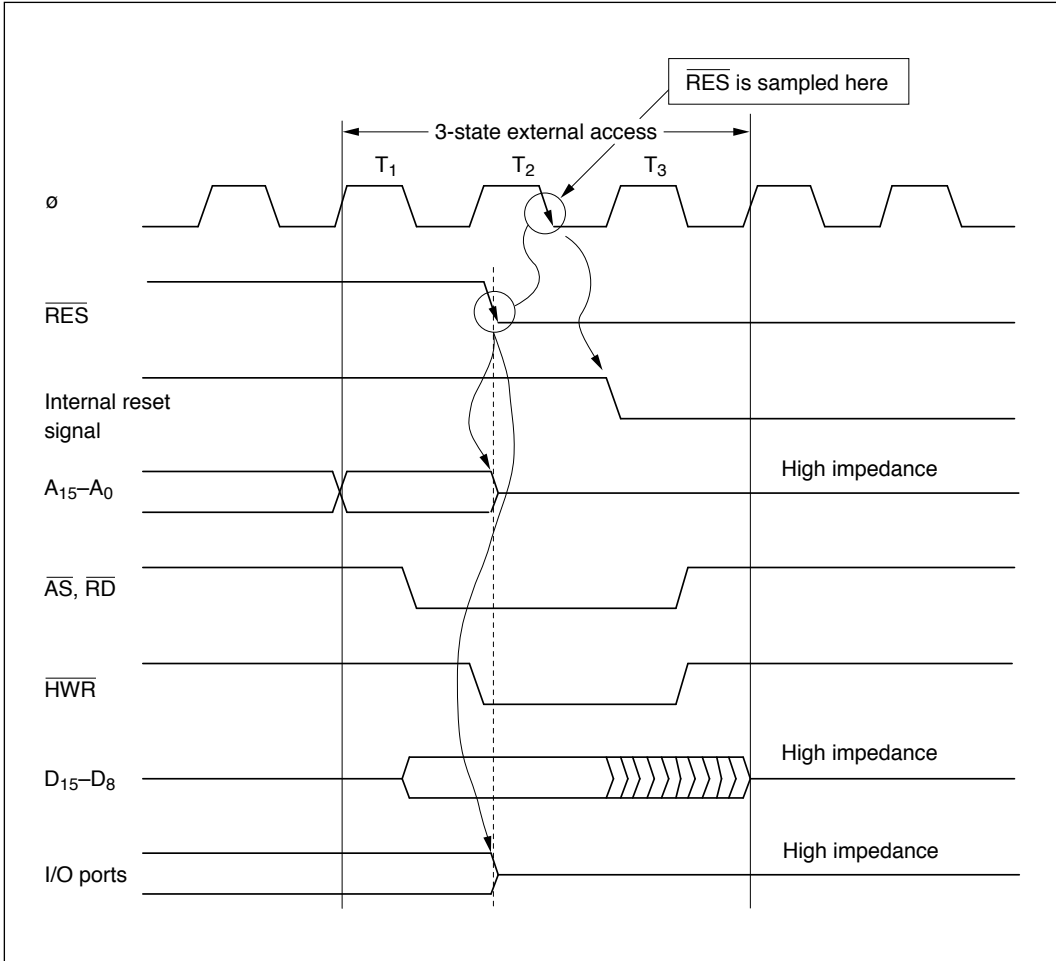

Figure G-2 Reset during Three-State Access (Mode 2)
(2) **Mode 2:** Figure G-2 is a timing diagram for the case in which $\overline{\text{RES}}$ goes low during three-state access in mode 2. As soon as $\overline{\text{RES}}$ goes low, all ports are initialized to the input state. $\overline{\text{AS}}$, $\overline{\text{RD}}$, $\overline{\text{LWR}}$, and $\overline{\text{HWR}}$ go high, and D_{15} to D_8 go to the high-impedance state. A_{15} to A_0 are initialized as soon as $\overline{\text{RES}}$ goes low, and become input ports.